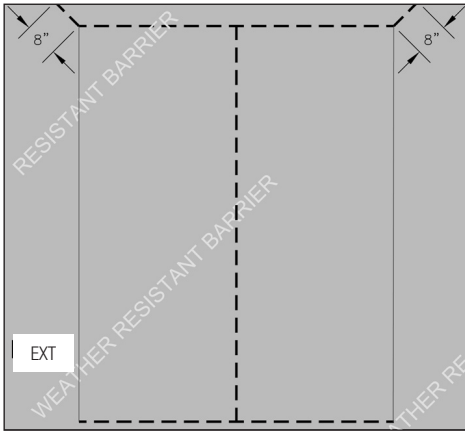

FIG. 5
- F) From the exterior, cut the top of the WRB to form a flap. (Fig. 5)